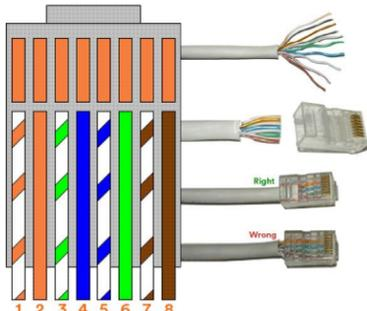

Figure-2: Wire Terminal Colors —
- b) Terminate the wire on the inside of the mounting plate. Strip 1.25-1.5" of the jacket to expose the 4 wire pairs, untwist each pair and arrange them over the terminal that corresponds with their color (see **Figure-2** below), use the custom punch-down tool to connect each wire to its matching terminal.